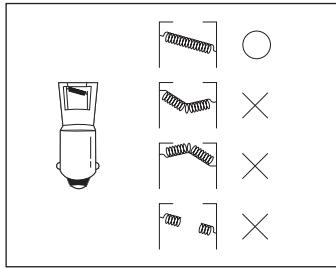

Fig. 14
- **BATTERIES -2 "C"** cell batteries are located at the rear of the heater. Replace with new batteries. (Fig. 14)